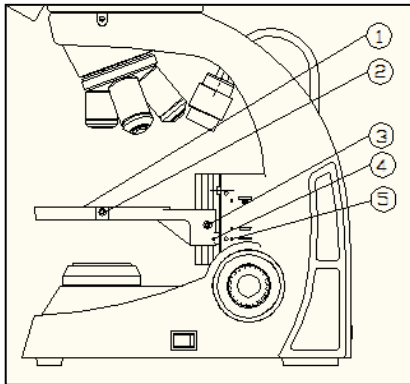

Fig 24
Put the plate ① into the holder use a hexagonal wrench lock the screw ②. Adjust coarse focusing wheel to lift the holder to the top position, loose the screw ③ to move the holder, and then lock the screw ③ when the mark ④ and ⑤ are horizontally aligned. (See Fig.24) (Only available under 2X objective)